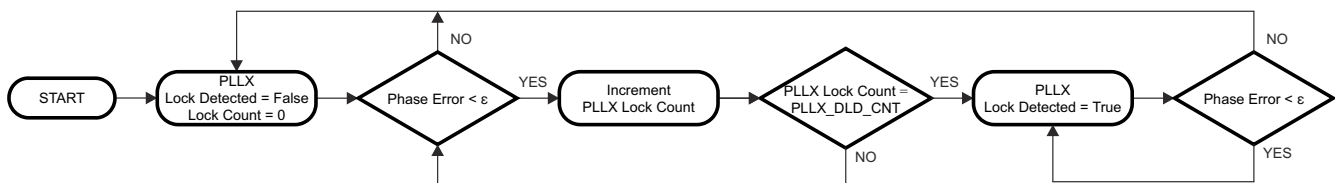

Figure 8-8. Digital Lock Detect Flowchart
Both PLL1 and PLL2 support digital lock detect. Digital lock detect compares the phase between the reference path (R) and the feedback path (N) of the PLL. When the time error, which is phase error, between the two signals is less than a specified window size (ϵ) a lock detect count increments. When the lock detect count reaches a user specified value, `PLL1_DLD_CNT` or `PLL2_DLD_CNT`, lock detect is asserted true. Once digital lock detect is true, a single phase comparison outside the specified window will cause digital lock detect to be asserted false. This is illustrated in Figure 8-8.